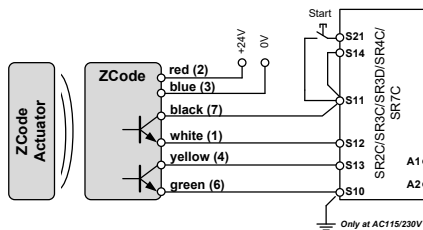
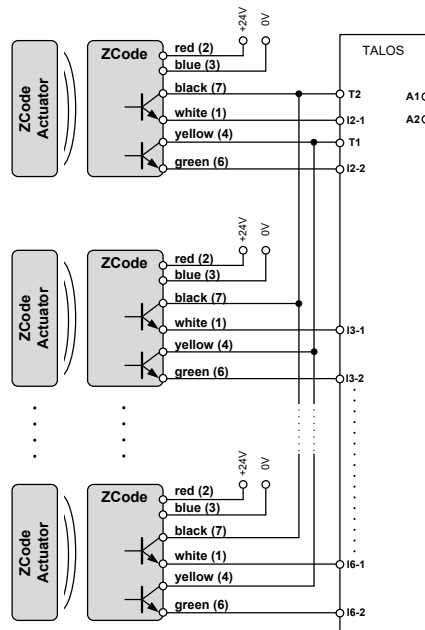

Figure 5: Single connection of a ZCode to one ZANDER SR“C” (up to category 4, PL e)
Figure 11 : Connection of ZCodes to one ZANDER TALOS according to the configurations of the standard programs PR07 and PR08 (up to category 4, PL e)
Up to 3 ZCode switches can be connected to one commercially available emergency stop safety relay or safety logic device (e.g. Fig. 5 to 10: wiring examples ZCode with ZANDER SR “C”, MINOS SD1E and MINOS SL1D / SL1E).
Wire the switch according to your application and performance level with the used safety relay, safety logic or PLC (see e.g. Fig. 5 to Fig. 11).
The specified PL (for applications according to Fig. 5 to Fig. 11) values were determined under the following worst-case conditions for a guard door monitoring.
Performance Level (PL)	e (Depending on the application. See Fig. 5 to Fig. 11)